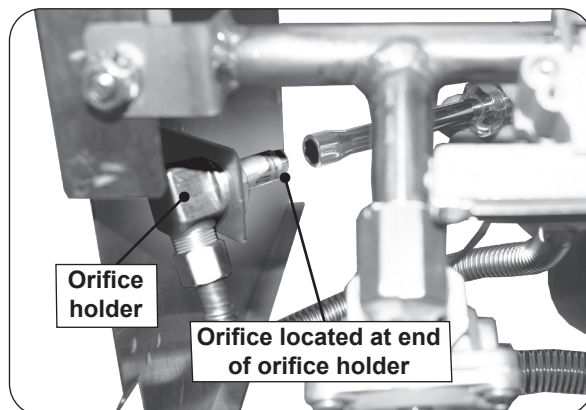
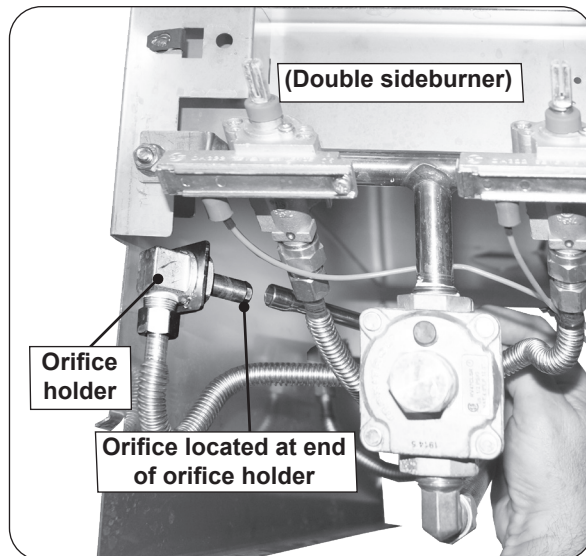

Fig. 35-1 Single sideburner orifice location
Fig. 35-2 Double sideburner orifice locations
4. Using a $\frac{3}{8}$ " socket nut driver, remove the orifice from the orifice holder (see Fig. 35-1 and Fig. 35-2) and check the number stamped on the orifice face.